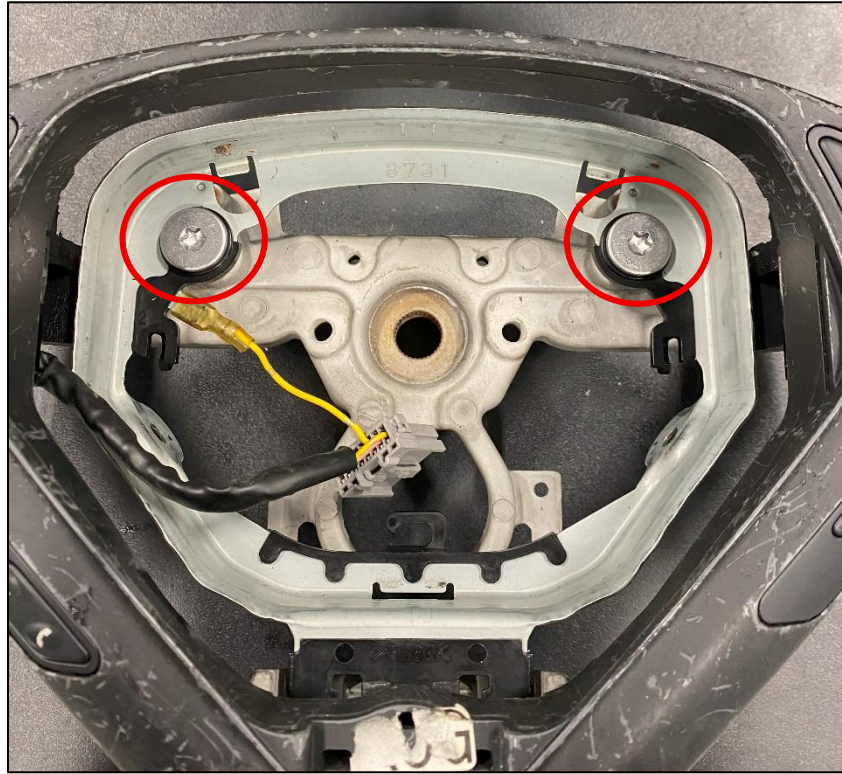

Figure 14
19. Install the (2) two TORX Screws removed in *Step 13* into the Airbag Panel to secure it to the Steering Wheel. The Nissan Factory Service Manual does not indicate a specific torque spec for these screws. Ensure that the Panel can move when pressed; if it cannot move, the horn will not function properly. *Figure 14.*
20. Route the Control Harness underneath the Airbag Panel and connect the Ground Wire to the Airbag Panel. *Figure 14.*